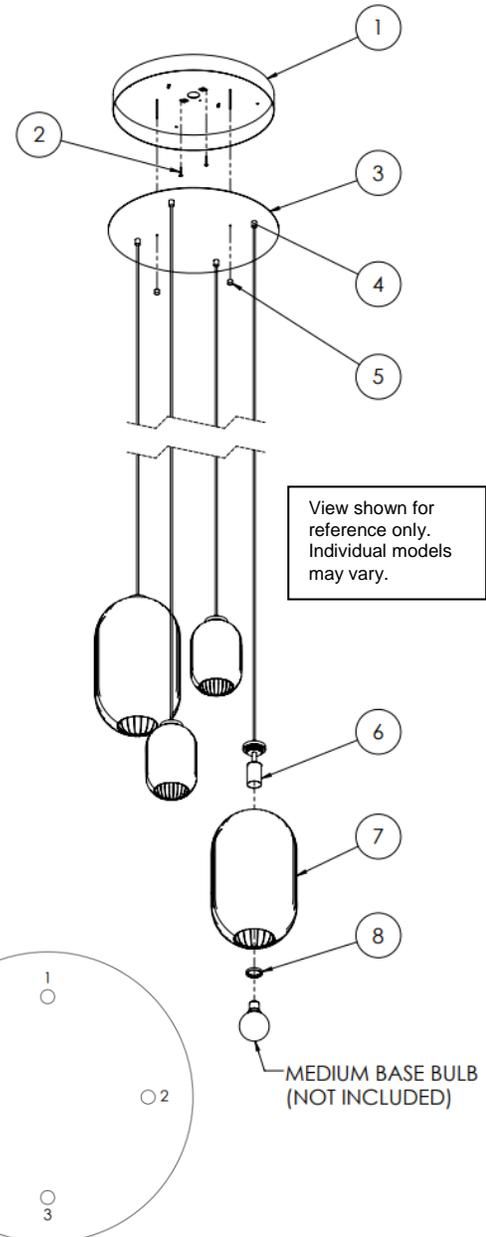

FIGURE 1:
- Connect the black wire from the pendants to the black (L) wire from supply power source.
- Connect the white wire from the pendants to the white (N) wire from supply power source.
- Align the mounting holes on the fixture plate with the two screws on the fixture pan (1) and use two finials (5) to secure it.
- Fixture comes with 2x large and 2x small glass diffusers. Install diffusers of same size into ports 1 & 3, per Figure 1. Install other sized diffusers into ports 2 & 4. **Note:** Figure 1 markings are for reference only and not shown on actual fixture.
- Slide glass diffuser (7) over the socket assembly (6) and use the fastener (8) to secure the diffuser in place. Note: Do not over tighten as it may cause chipping of the glass.